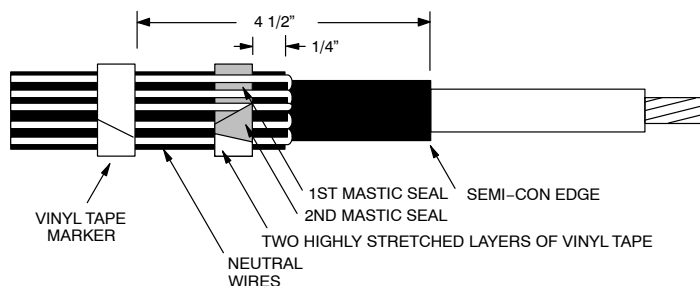

FIGURE 3
4. Bend neutral wires back over applied mastic, secure the wires to the cable jacket with vinyl tape. The tape should be placed a distance of 4–1/2" from the edge of the semi-con. See Figure 3. NOTE: The vinyl tape serves as a marker tape, so position carefully.
5. Select a second mastic strip from the kit and remove the white release liners. Apply a second single wrap of mastic over the neutral wires and the previously applied mastic. Cut off excess. See Figure 3.
6. Compress the neutral wires into the mastic. Over-wrap the mastic strips with two highly stretched layers of vinyl tape. Be sure that all exposed mastic is covered. See Figure 3.